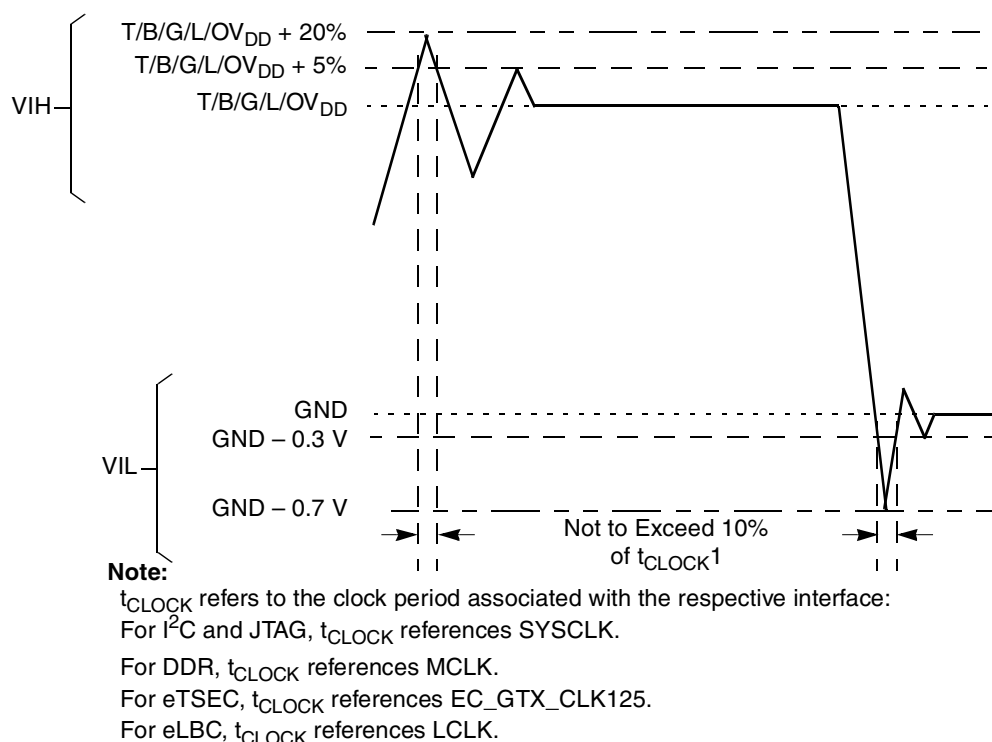

Figure 2. Overshoot/Undershoot Voltage for $TV_{DD}/BV_{DD}/GV_{DD}/LV_{DD}/OV_{DD}$
- (M,L,O) V_{IN} may overshoot/undershoot to a voltage and for a maximum duration as shown in Figure 2.
Figure 2 shows the undershoot and overshoot voltages at the interfaces of the MPC8572E.